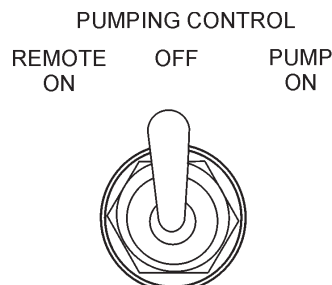

Figure 21. Pumping Control Switch (OFF)
2. Place the pumping control switch (Figure 21) in the **OFF** position.
- Place the pumping control switch in the **OFF** position (Figure 21).